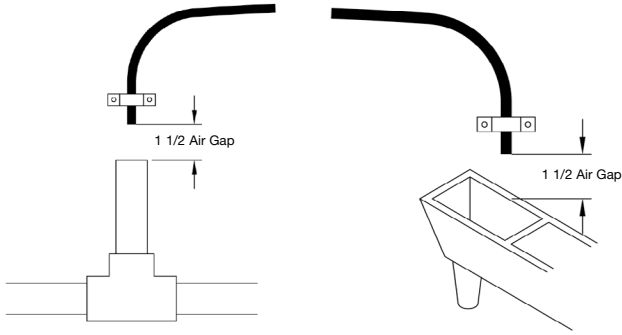

Figure 7: Also be sure drain line has an air gap.
2. If the drain line is a 5/8" outside diameter X 1/2" inside diameter flexible poly tube, slide the nut onto the poly tube, then place the poly tube insert into the end of the poly tube and tighten the nut on to the 3/4" drain line fitting. The nut is only designed for use with flexible poly tube. Use other nuts if attaching different materials. Run line to a drain. Making sure you have a 1 1/2" airgap. You may use a floor drain, standpipe or any open type drain (see Fig. 7 on page 13). Do not use petroleum-based lubricants, oils, or other unacceptable lubricants on O-rings. A silicon lubricant may be used on the black O-ring.